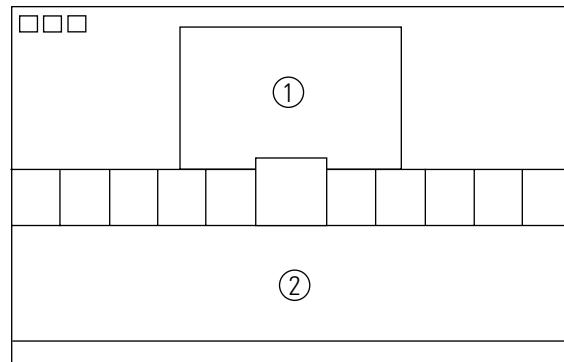

Fig. 4-4
1. Set SBT to 1.0 fL in the Factory Service Mode with using CA100. See Fig. 4-4.
1. Set SCT to 35 fL in the Factory Service Mode with using CA100. See Fig. 4-4 .